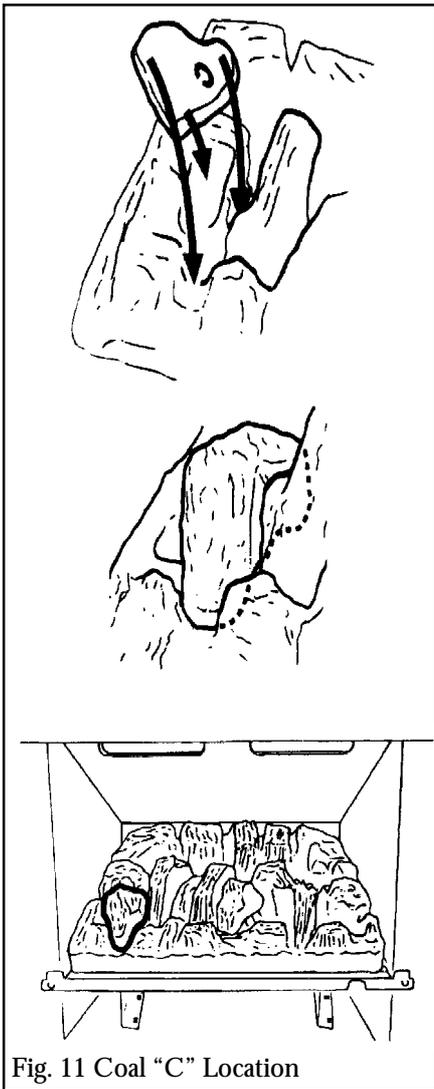

Fig. 11 Coal "C" Location
**10.1.3** Position the front left coal (embossed "C" on its underside) in the well in the coal bed marked "C" - see figure 11. The narrow "nose" should locate in the "U" shaped cut-out at the front left of the coal bed. The bottom of the coal should rest on the ridges at each side of the location well marked "C" in the coal bed. The 'ear' at the rear right of coal "C" should rest in the depression in the ridge at the right side of the wall.